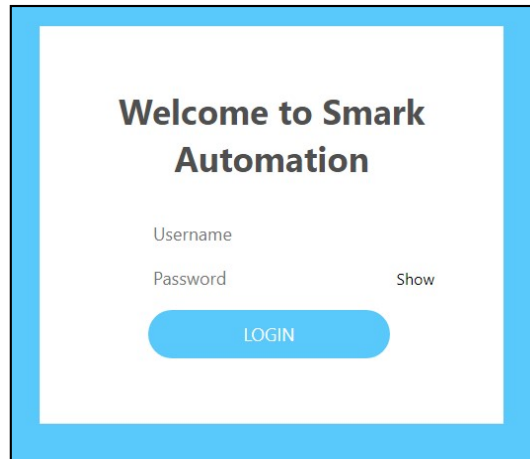

Figure 32: Login Page
- 3. Access the Device via Browser:** Open a web browser on a computer, enter the IP address exactly as shown on the OLED screen into the address bar, and then press Enter to navigate to the device interface. A page will then open, as shown in Fig 32.